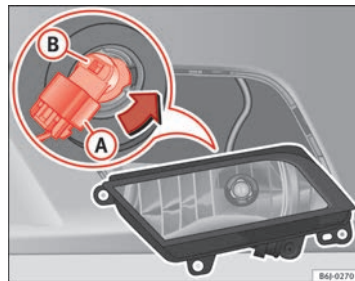

Fig. 159 Fog lights
- Extract the connector ⇒ fig. 159 **A** from the bulb.
- Rotate the bulb holder ⇒ fig. 159 **A** to the left and pull.